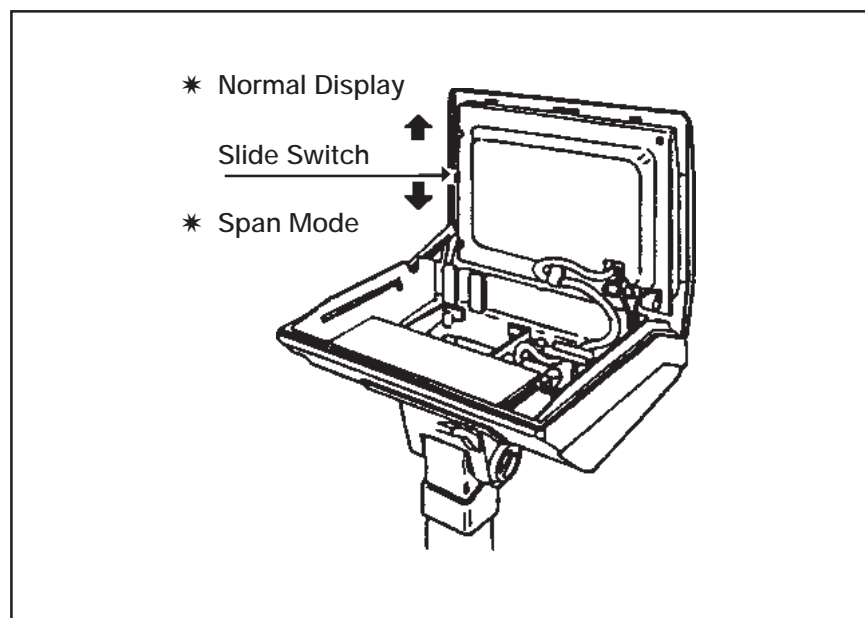

Figure 2
1. Remove screws (4) that secure CPU cover.
2. With power off, press slide switch Down to Span position (see Figure 2).
- Looking at CPU board, slide switch is located on left-hand side of board. See Figure 2.